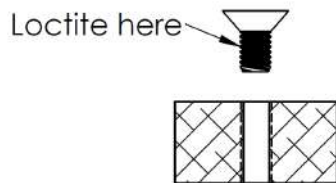

Fig.1 Through Hole
- B. For through holes, apply threadlocker directly on screws (fig 1).